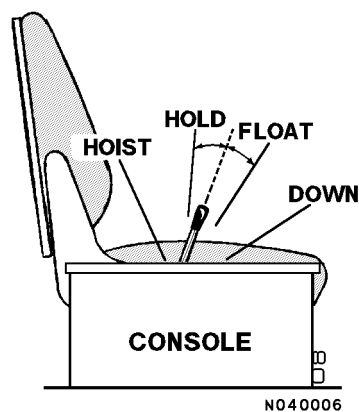

FIGURE 30-2. HOIST LEVER POSITIONS
4. Move the lever to the HOIST position. Refer to Fig. 30-2. Releasing the lever while in the HOIST position will cause the lever to move to the HOLD position.